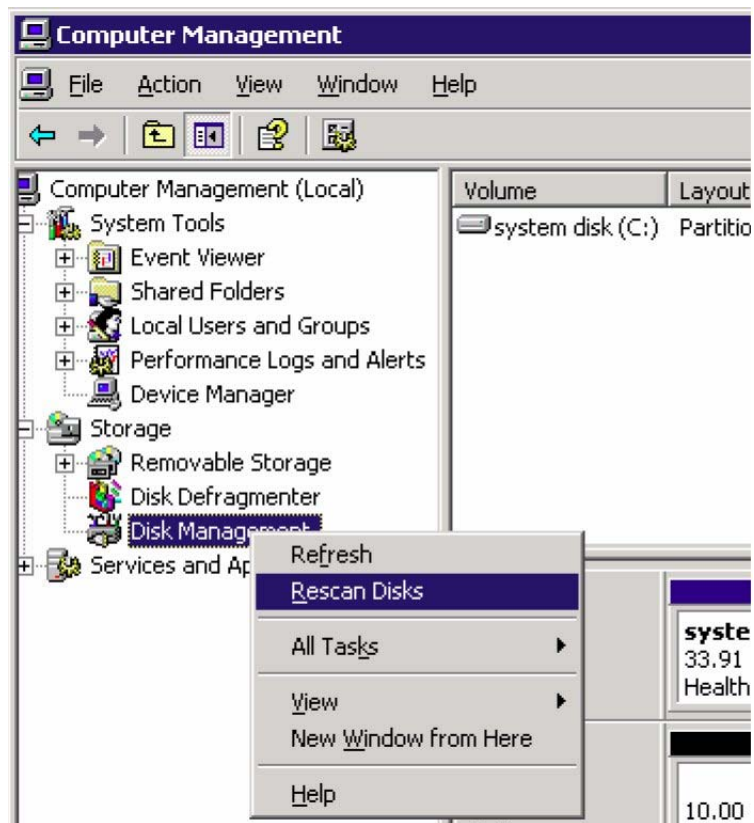

Figure 37 Rescanning disks
2. After configuring virtual disks and assigning them to the iSCSI Initiator return to the iSCSI host server and select **Rescan Disks** in the Computer Management window (Figure 37).